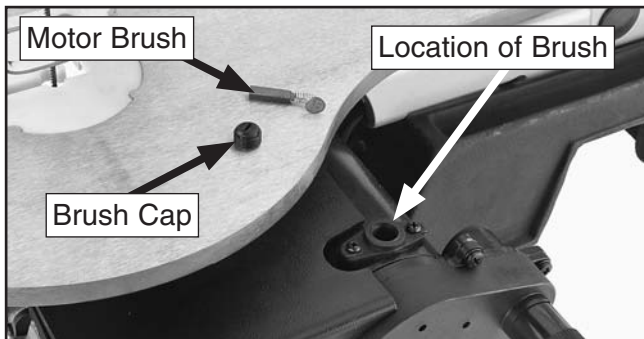

Figure 36. Top motor brush cap.
2. Remove the top motor brush cap and motor brush, as shown in **Figure 36**, then install a new brush and replace the cap.